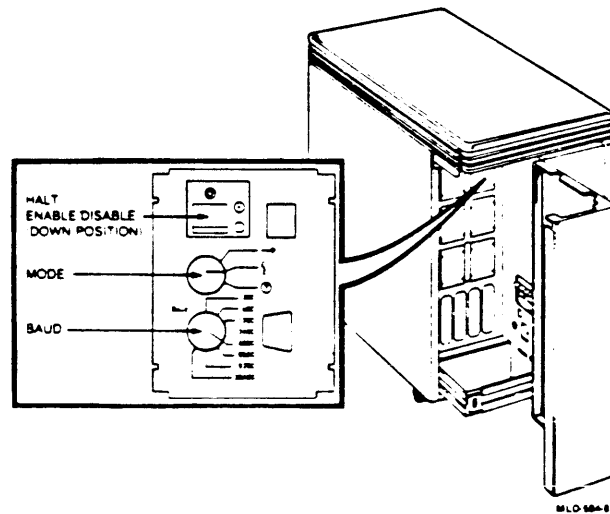

FIGURE 2-10. The CPU I/O insert as oriented on a BA123-A Enclosure.
Step 7: Set the controls on the CPU distribution panel on the rear of the unit (shown in Figure 2-10) to the positions listed below.